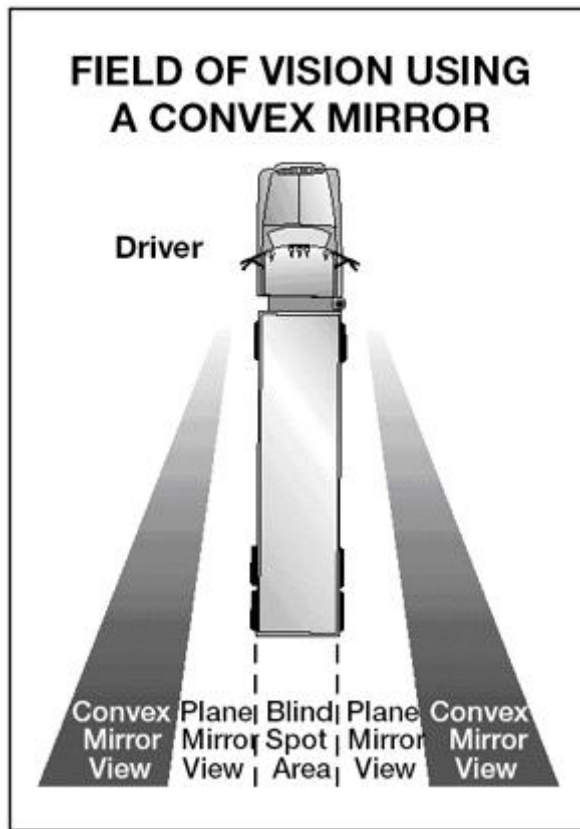

Figure 2-7
- Many large vehicles have curved (convex, "fisheye," "spot," "bugeye") mirrors that show a wider area than flat mirrors. This is often helpful. But everything appears smaller in a convex mirror than it would if you were looking at it directly. Things also seem farther away than they really are. It's important to realize this and to allow for it. Figure 2.7 shows the field of vision using a convex mirror.